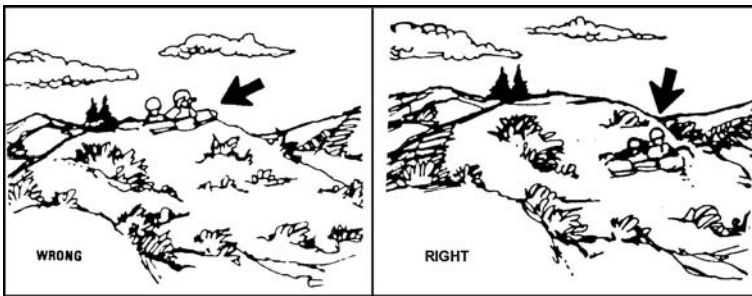

Figure 071-326-5705-1. OP position
- b. Locate the OP on or near the military crest of a hill, if possible. Avoid topographical crests because of the chance of being skylined. When observation is restricted by the terrain, establishing the OP well down the forward slope might be appropriate (figure 071-326-5705-1).